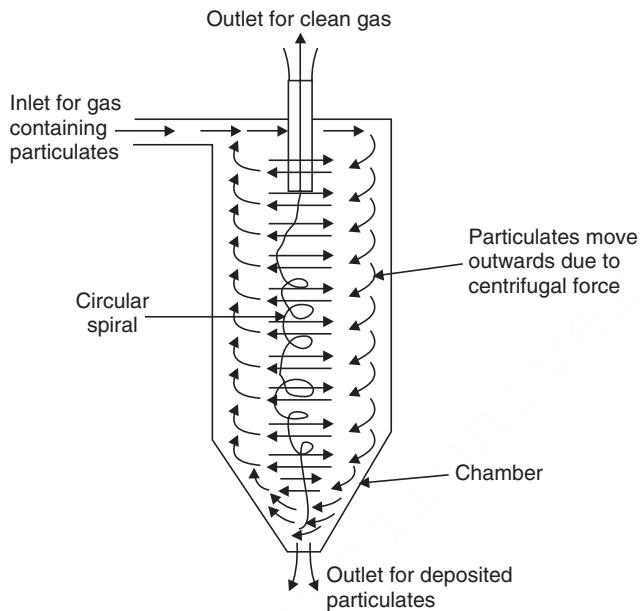

Fig. 27.2 A cyclone collector.
- (a) **Cyclone collector.** It is used for precleaning of air for removal of dry particulates of size ranging from 5–20 μm . The air/gas is passed through a tight circular spiral-fitted chamber. The centrifugal forces throw the particulates towards the wall from where they settle down due to gravity. The collected particles are periodically removed. The action of cyclone separator is as shown in Fig. 27.2.